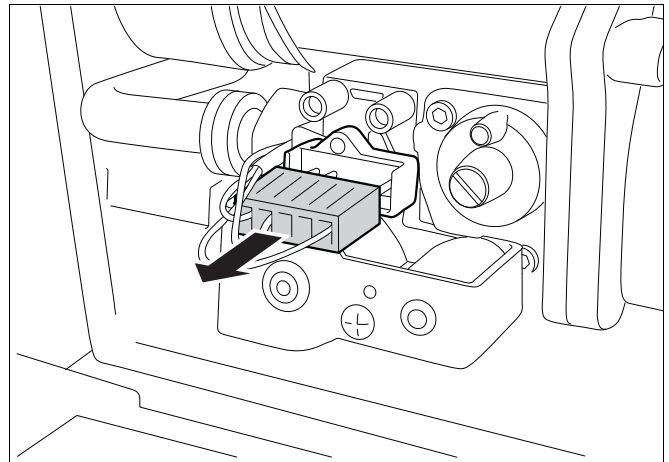

fig. 38 Removing the gas control valve plug
- Remove the plug of the gas control valve (see fig. 38).